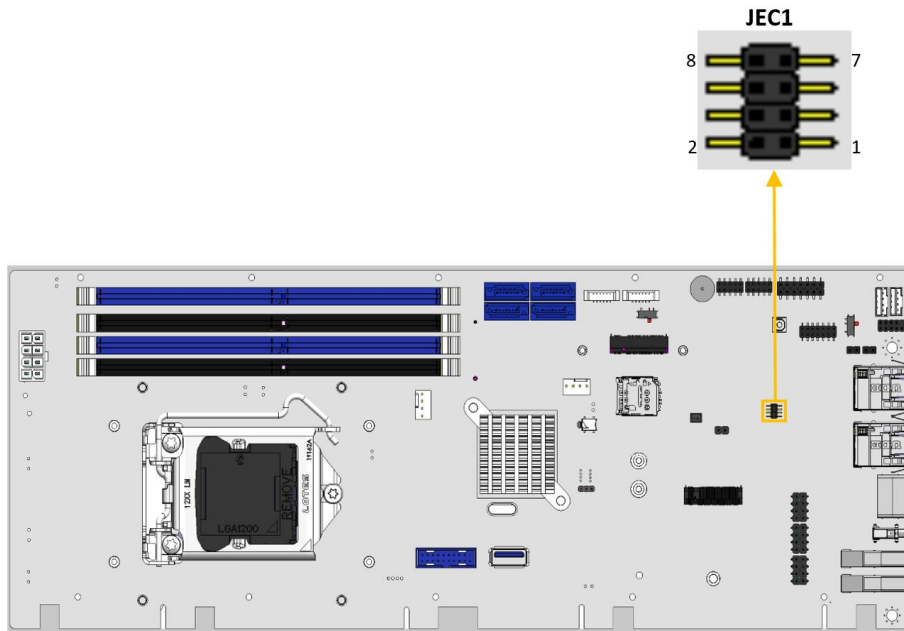

Figure 3-23: Flash EC ROM Connector Location
- CN Location:** See Figure 3-23